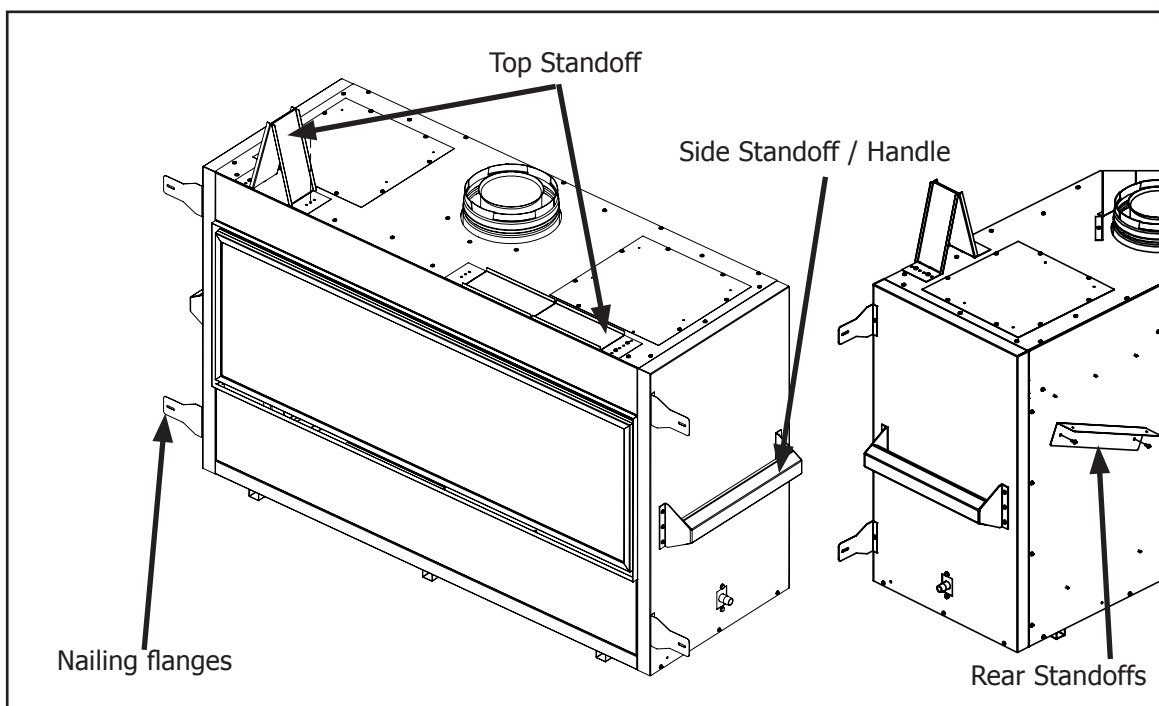

Figure 17: Fireplace Install Prep
Take a minute to familiarize yourself with Figure 17 below.
- The top framing standoffs will need to be folded up and secured on one side with a T-20 screw, This can be seen in Figure 17.